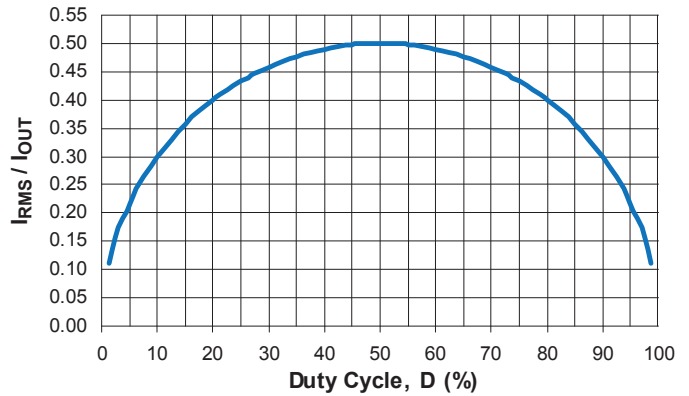

Figure 13: Normalized Input Capacitor Ripple versus Duty Cycle
Figure 13 shows the normalized input capacitor rms current versus duty cycle. To use this graph, simply find the operational duty cycle (D) on the x-axis and determine the input/output current multiplier on the y-axis. For example, at a 20% duty